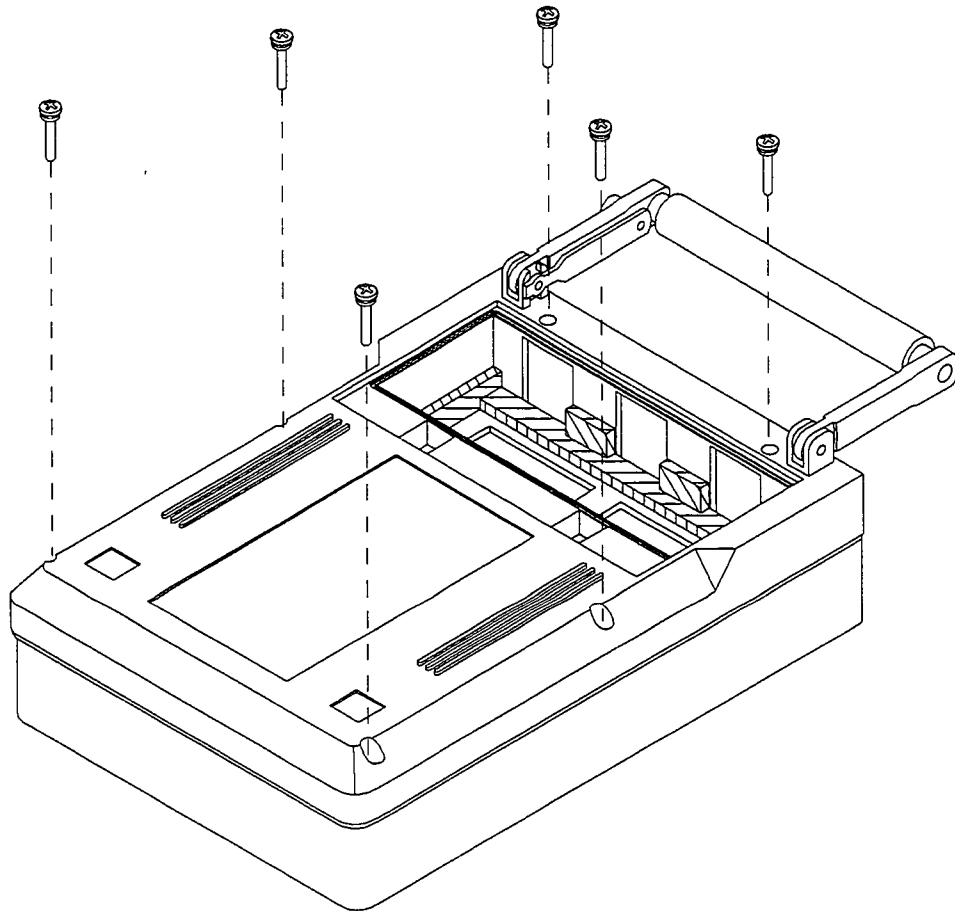

Figure 6-2.
1. Remove the six screws from the perimeter of the bottom cover as shown in figure 6-2.